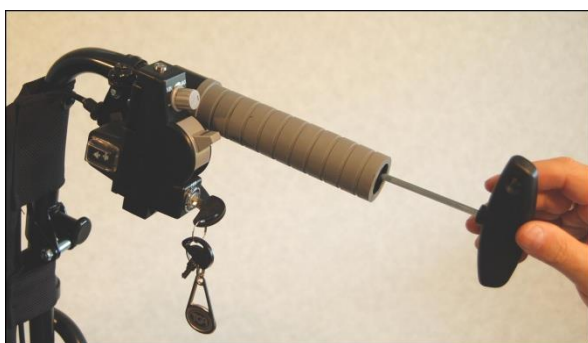

Fig 7 Fitting and Connecting Battery
11. Place the battery in the tray with the writing on the bag uppermost and the handle towards you. The battery bag is securely held in place by Velcro (Fig 7).
16. Connect the battery plug and socket to the plug and socket from the controller. This can only be done one way, red to red and black to black (Fig 7).
3. To charge, disconnect the plug and socket between the battery and the Powerpack (Fig 7) and connect the charger to the battery. To ensure correct connection this can only be done one way, red to red and black to black.